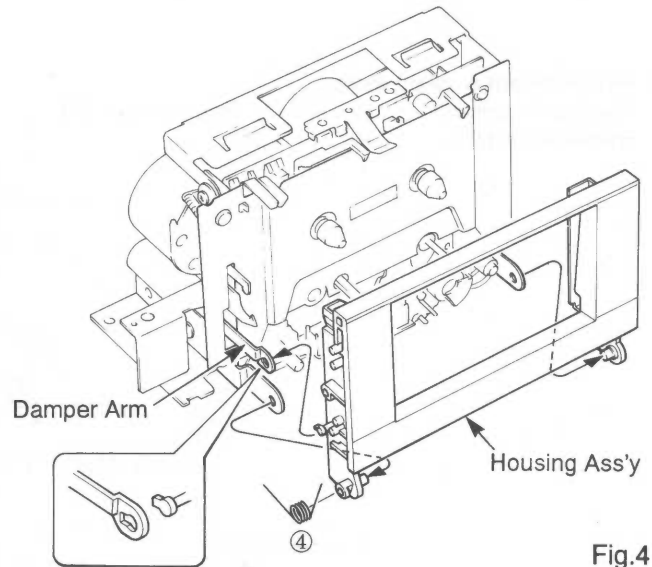

Fig.4
- a. Detach the spring ( ④ ) in Fig.4.